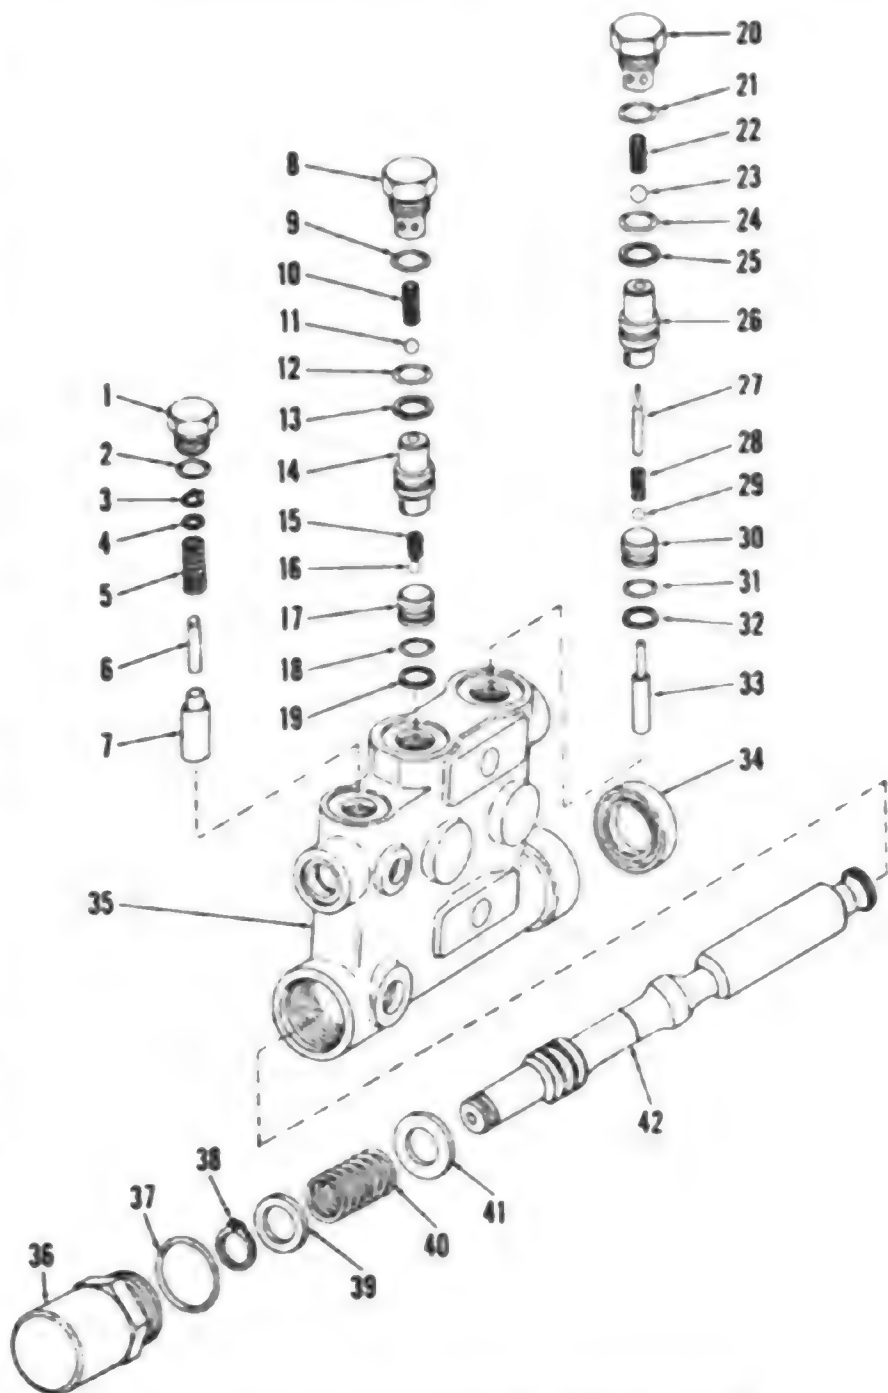

Fig. 131 - Exploded view of hydrostatic drive control valve assembly.
**106. DRIVE CONTROL VALVE.** To disassemble the drive control valve, refer to Fig. 131 and remove plug (1) with "O" ring (2). Withdraw valve pin (6), spring (5) and anti-coast valve (7). Unscrew plug (8) and remove the deceleration and check valve assembly (items 8 through 19). This assembly is referred to as capsule "B" and normally is withdrawn as an assembly. However, if the capsule comes apart during removal, lay parts out in order. Springs (10 and 15) and balls (11 and 16) must not be interchanged.